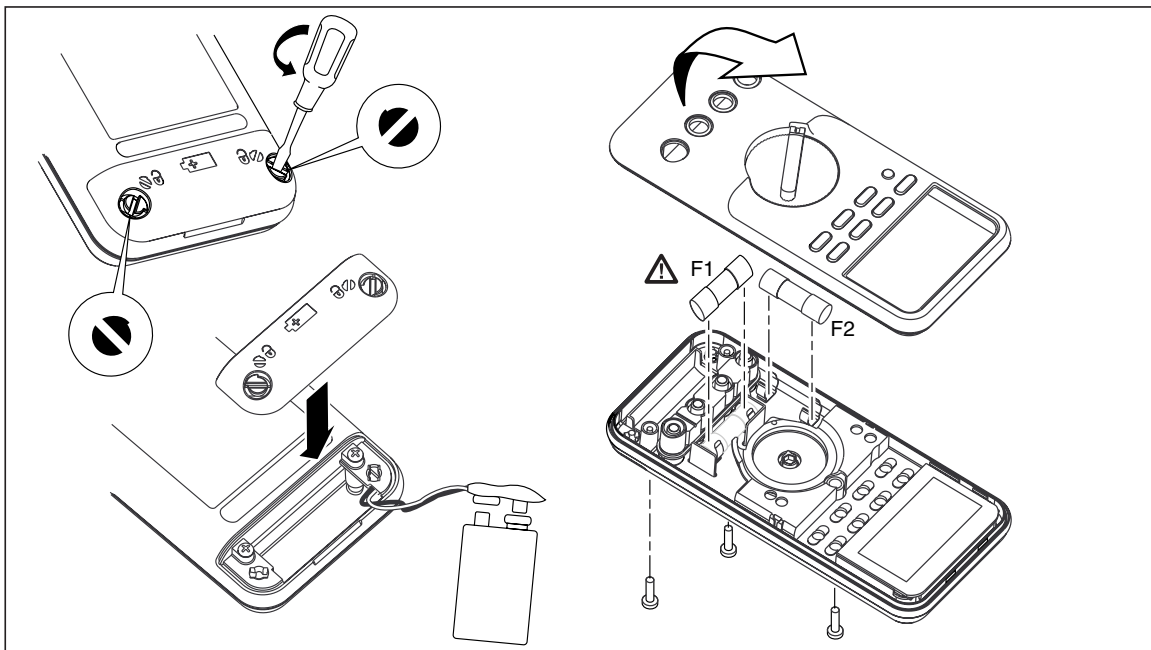

Figure 2. Opening the Meter, Battery and Fuse Replacement
To open the Meter case, refer to Figure 2 and do the following:
6. Gently unsnap the case top at the display end, see Figure 2.
5. Properly seat the case gasket and snap the case halves together above the LCD end. See Figure 2.
Replace the battery as follows, refer to Figure 2:
1. To open the Meter, refer to “Opening the Meter Case”. See Figure 2.